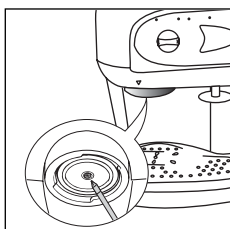

fig. 35
- Using a screwdriver, unscrew the screw that holds the outlet of the espresso boiler (fig. 35).